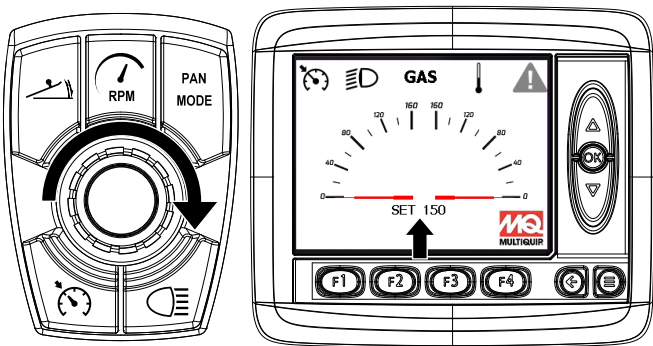

Figure 37. Rotor Speed Selection
- Turn the **control knob** until the desired rotor speed (60–150 rpm) is displayed. During normal operation this will be the blade speed when the foot pedal is fully depressed. See Figure 37.